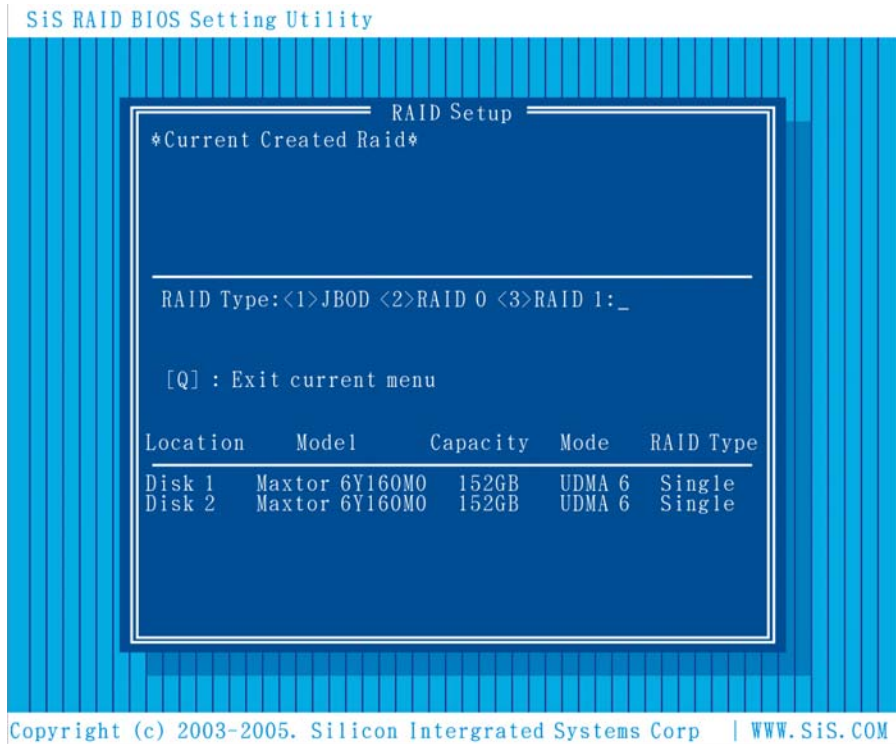

Figure 8-4: Select RAID Level
Step 7: The screen in **Figure 8-4** appears.
Step 1: In **Figure 8-4** press “1”.
Step 1: In **Figure 8-4** press “2”.
Step 1: In **Figure 8-4** press “**3**”.